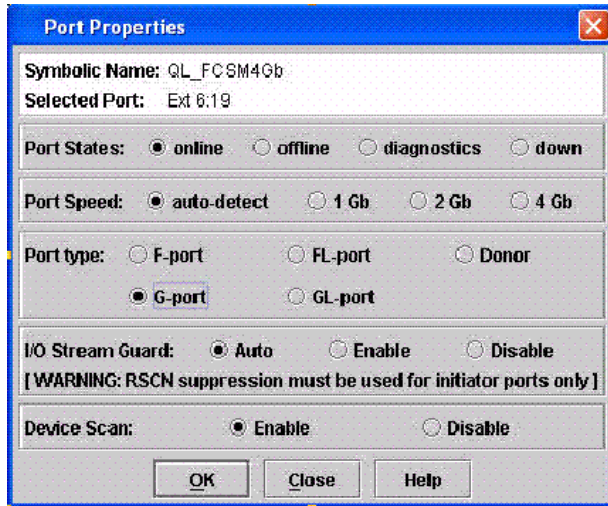

Figure 7-48 Port Properties window
5. From the Port Properties dialog box (Figure 7-48 on page 209), verify the following settings are true for port 19:
7. When the Updating Port Properties - SAN Browser dialog box appears, click **OK** (see Figure 7-48).